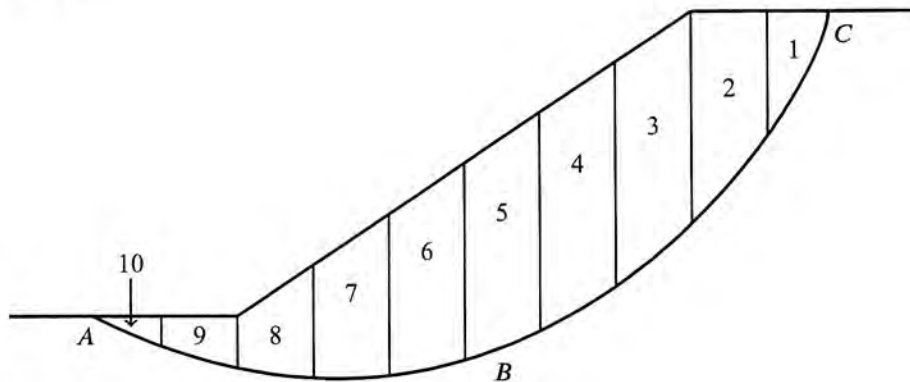

Figure 6: for QUES 9(b)
- Describe the different modes of failure of finite slope. (3)
- For the slope shown in the following figure (Fig. 6), find the factor of safety (F_s) against sliding for the trial slip surface ABC using the Bishop's modified method of slices. (13 $\frac{2}{3}$)